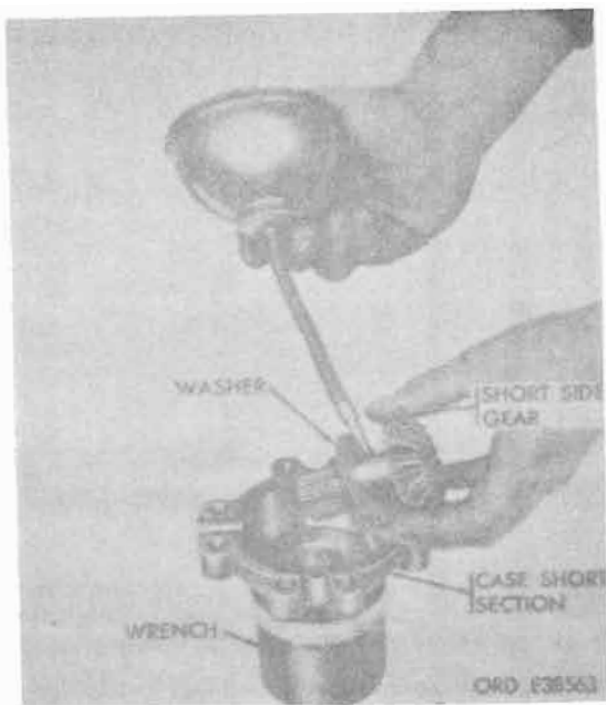

Figure 12-40. Lubricating and installing short side gear and thrust washer.
e. Lubricate backface of short side gear and both sides of washer; and install in case, using OE as a lubricant (fig. 12-40).